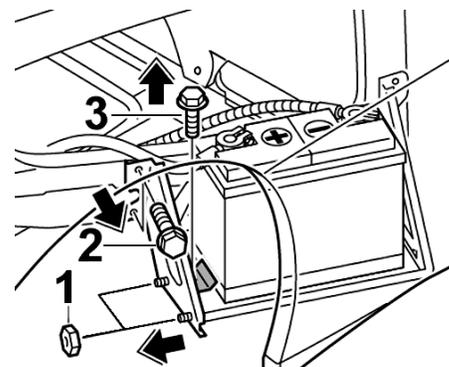

Fig. 3 Battery hold down
7. Remove two fastening screws (2) for hold down on chassis, **Fig. 3**.
8. Remove both fastening nuts (1), then remove hold down, **Fig. 3**.
9. Remove fastening screw (3) for battery retaining claw and remove, **Fig. 3**.